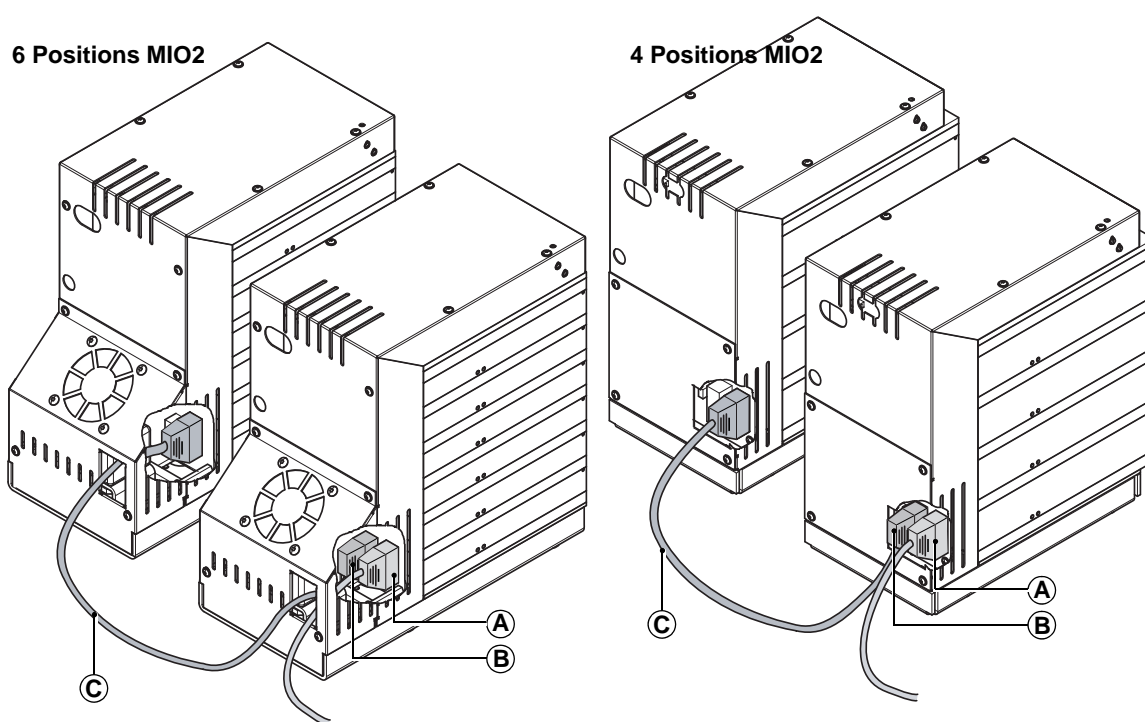

Fig. 5-3 Multiple MIO2, D-Sub cable and Loop cable connected
- 1 Connect the loop cable (C) to the next incubator as shown in Fig. 5-3, 5-5.